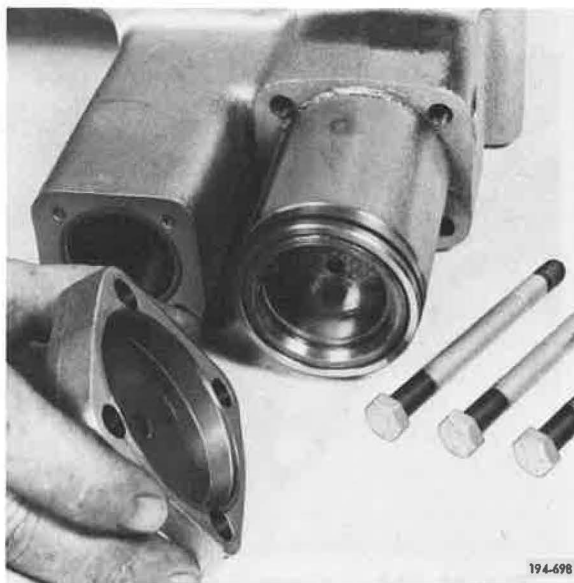

Figure 264. Installing Cover
14. Install Lo/Hi shift cover onto Lo/Hi shift cylinder. See Figure 264.